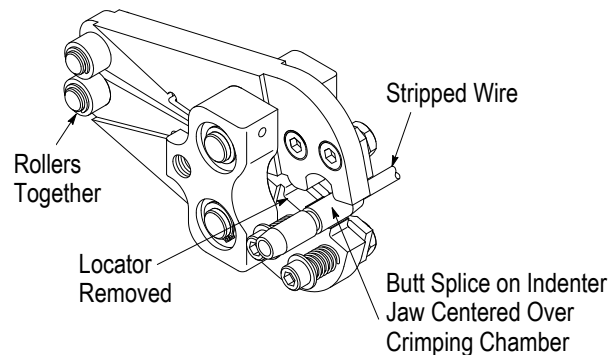

Figure 5
3. Open jaws by squeezing rollers together simultaneously; then place the butt splice on the indenter jaw with the wire barrel to be crimped centered over the crimping chamber (see Figure 5).